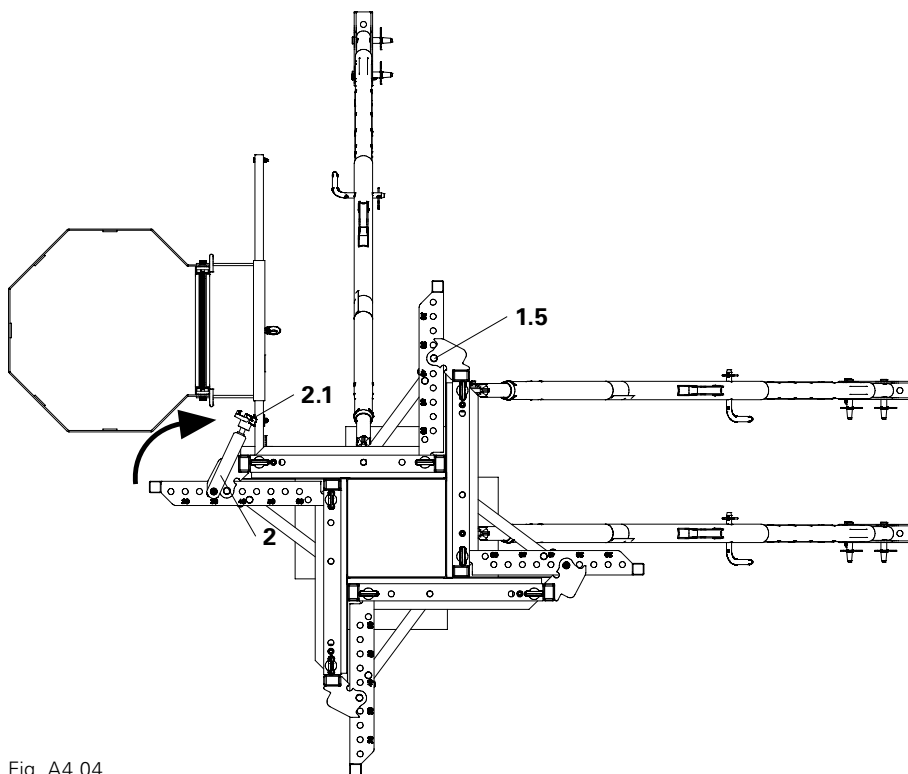

Fig. A4.04
3. Swing out QUATTRO QR Frame Spanner over the fastening straps on the adjacent element and tighten by means of the wingnuts (2.1). (Fig. A4.04)
(Fig. A4.04 is shown here without the concreting platform).